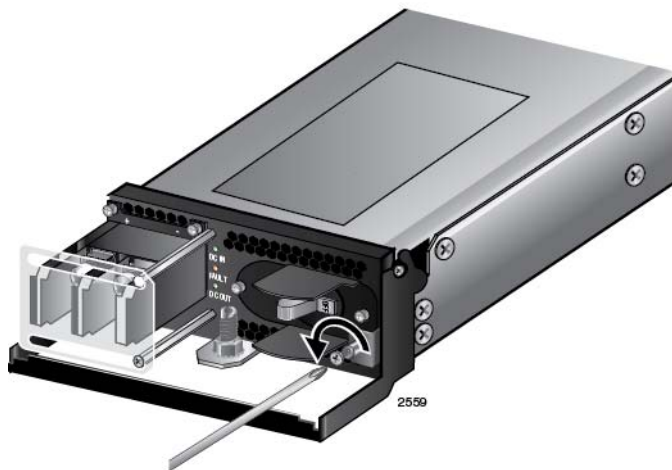

Figure 64. Loosening the Handle Locking Screw on the AT-SBxPWRSYS1 DC Power Supply
5. With a #2 Phillips-head screwdriver, loosen the handle locking screw on the power supply, as shown in Figure 64.